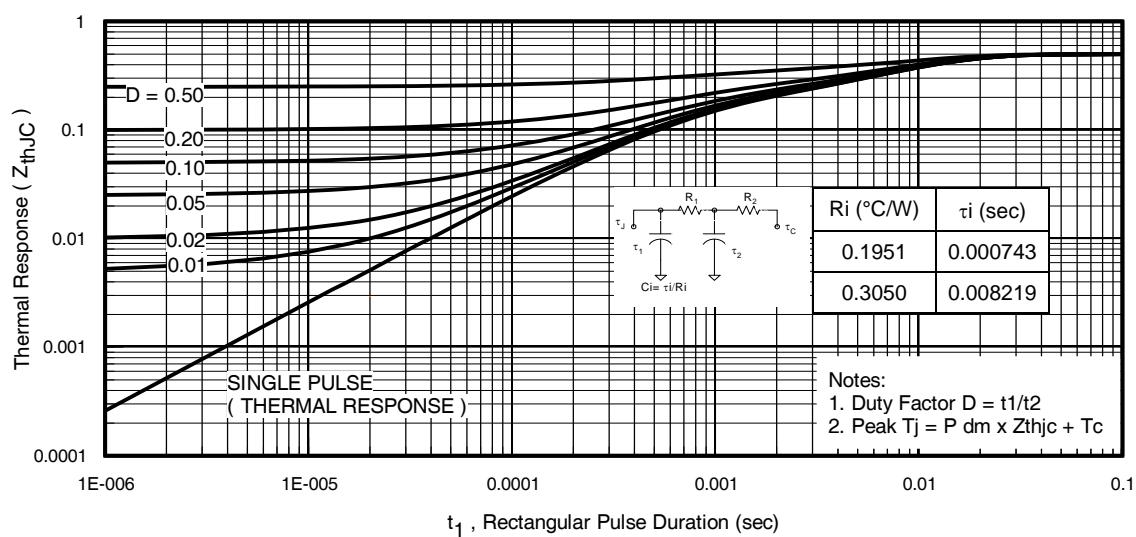
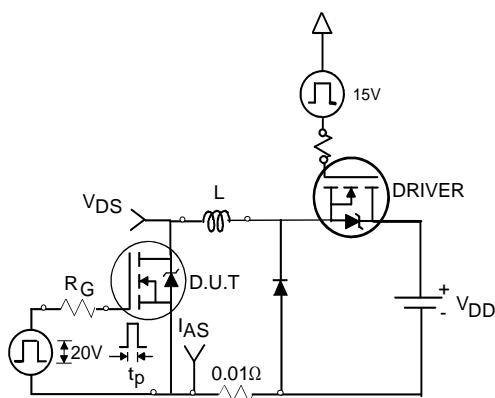

Fig 11. Maximum Effective Transient Thermal Impedance, Junction-to-Case
Fig 12a. Unclamped Inductive Test Circuit
- ① Calculated continuous current based on maximum allowable junction temperature. Package limitation current is 240A. Note that current limitations arising from heating of the device leads may occur with some lead mounting arrangements. (Refer to AN-1140)
- ② Repetitive rating; pulse width limited by max. junction temperature. (See fig. 11).
- ③ Limited by T_{Jmax} , starting $T_J = 25^\circ\text{C}$, $L = 0.049\text{mH}$, $R_G = 25\Omega$, $I_{\text{AS}} = 160\text{A}$, $V_{\text{GS}} = 10\text{V}$. Part not recommended for use above this value.
- ④ Pulse width $\leq 1.0\text{ms}$; duty cycle $\leq 2\%$.
- ⑤ $C_{\text{oss eff.}}$ is a fixed capacitance that gives the same charging time as C_{oss} while V_{DS} is rising from 0 to 80% V_{DSS} .
- ⑥ Limited by T_{Jmax} , see Fig.12a, 12b, 15, 16 for typical repetitive avalanche performance.
- ⑦ This value determined from sample failure population, starting $T_J = 25^\circ\text{C}$, $L = 0.049\text{mH}$, $R_G = 25\Omega$, $I_{\text{AS}} = 160\text{A}$, $V_{\text{GS}} = 10\text{V}$.
- ⑧ This is applied to D2Pak, when mounted on 1" square PCB (FR-4 or G-10 Material). For recommended footprint and soldering techniques refer to application note # AN-994.
- ⑨ R_θ is measured at T_J of approximately 90°C .
3. Equation below based on circuit and waveforms shown in Figures 12a, 12b.
- $Z_{thJC}(D, t_{av})$ = Transient thermal resistance, see Figures 11)